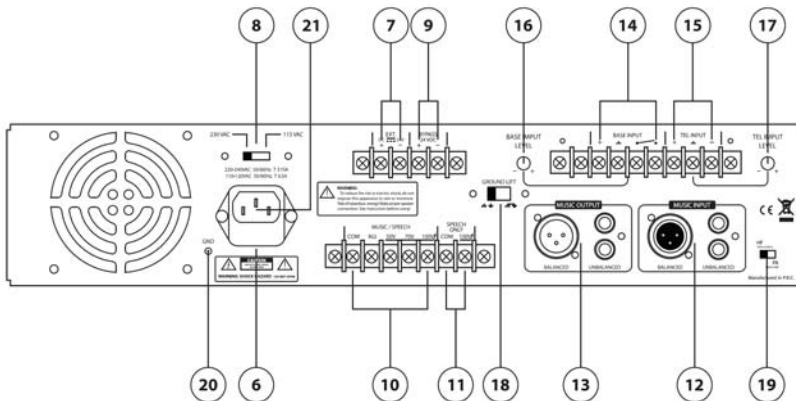

fig.2
To connect the unit to the main power insert in position 21 **fig.2**, the cable supplied in the power unit package.
- To access to 24Vdc Terminal connections (**fig.2**) unscrew to remove the cover.
To access to the speakers terminal screws (**fig.2** rif. 10) unscrew to remove the cover.
Connect BM100A terminal to terminal screws 14 of **fig.2** as follows:
Connect output terminal of the telephone central to TEL INPUT (fig.2 ref.15). Use the suitable connection considering the audio output characteristics. Make reference to the telephone user manual.
To have a line with constant impedance ( $8\Omega$ ) connect 2 terminals respectively to terminal COM and  $8\Omega$  (fig.2 ref. 10).
To have a line at constant voltage (50 / 70 / 100 V) connect 2 terminals respectively to COM and to the tension value of your choice (fig.2 ref10).